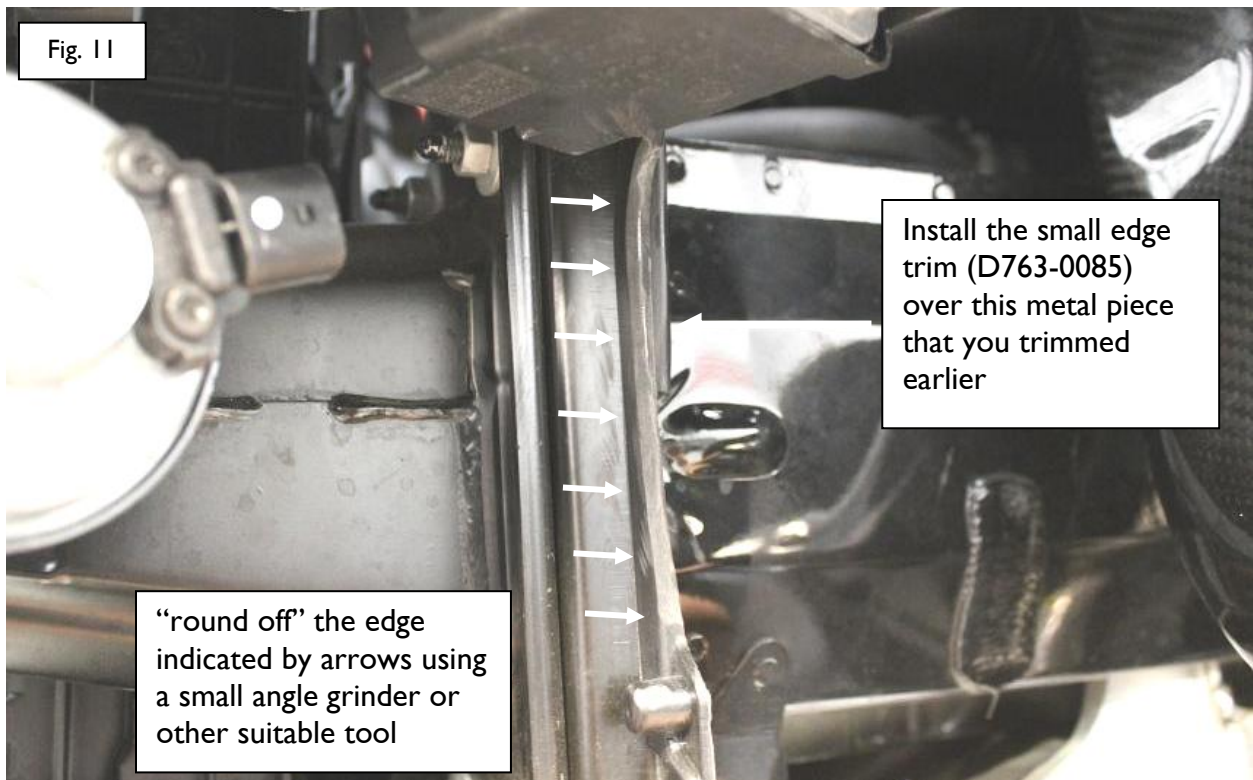

Fig. 11
20. The sharp plastic edge that is just in front of the auxiliary radiator bracket you just trimmed will need to be “rounded off” using a small angle grinder or other suitable tool (see **Fig. 11**). After the rounding off has been performed, place the small edge trim (D763-0085) over the metal bracket trimmed in **Step 16** as shown in **Fig. 11**.